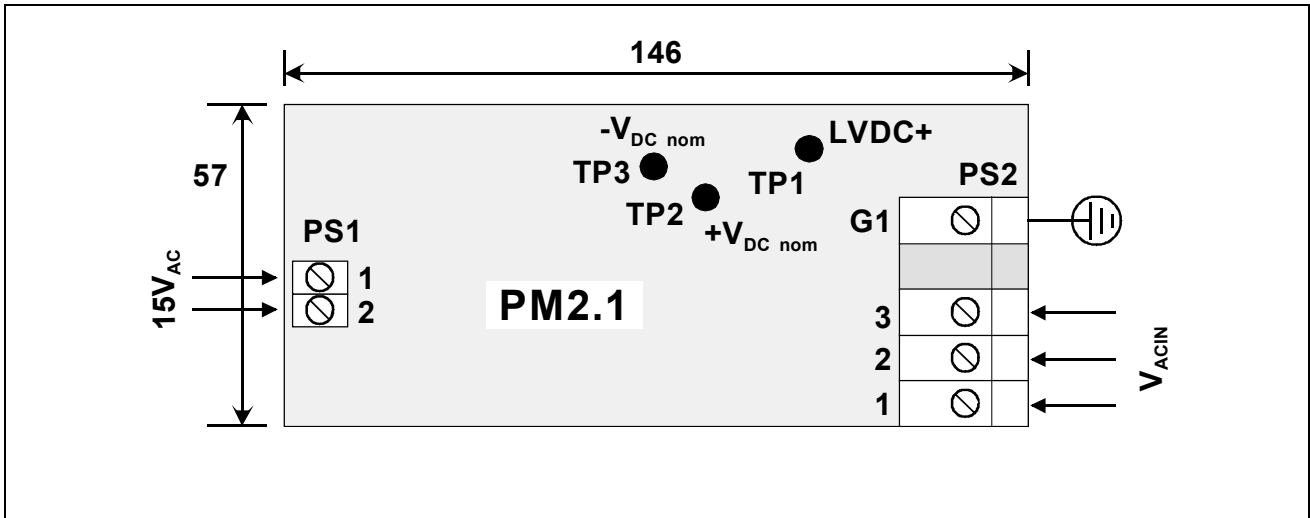

Fig. 6 - SUPPLY MOTHERBOARD REAR VIEW (FROM SCREW CONNECTOR SIDE)
- 8.5 - Motherboard PM2 is a printed circuit board, which is mounted on the rear rails of a 3 units rack. The motherboard holds, on the face towards rack front, a DIN 41612 form D connector (where Power Supply PS03, PS04 or PS06 is inserted) and, on the back face, two screw-type terminals (PS1 and PS2 in fig. 6). PS2 is used for the connection of the secondary winding of the power transformer, where PS1 is used for the connection of secondary 15 V_{AC} winding, when customer needs a 12 V_{DC} voltage for auxiliary purposes. This auxiliary voltage is not necessary for drives operation and therefore connection to PS1 have to be done only if they are needed from the user. The three terminal points (TP1, TP2, TP3), where the bus-bars are soldered, are used to carry the $V_{DC\ nom}$ supply voltage and the 12 V_{DC} to drives motherboards.